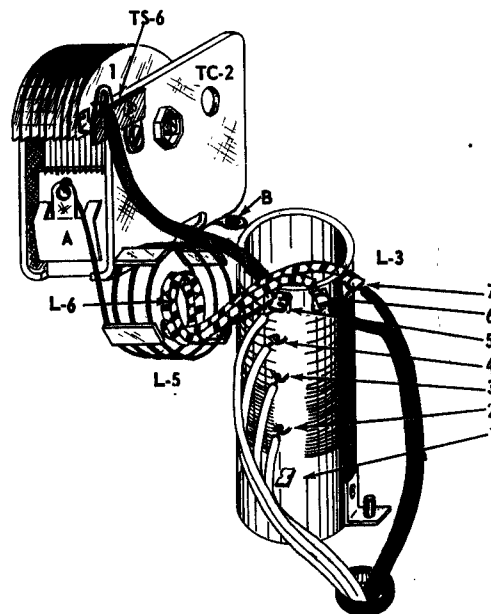

Figure 22.
- 169. Adjust the wiper tab, which is soldered to lug 1 of tie strip TS-6, to make slight contact with the outside rotor plate of tuning condenser TC-2. Properly adjusted, the tab will continue to make a wiping contact with the rotor plate of the tuning condenser as it is advanced in a clockwise direction from its present position. See Fig. 22. This constitutes the 6 meter tuning portion of the Final Plate tuning condenser.
- 171. Connect a short U shaped piece of #16 bus wire from pin 6 to pin 7 of the octal plug. (S). Trim the excess wire and solder from the plug pins and reinsert the plug into socket SO-6.